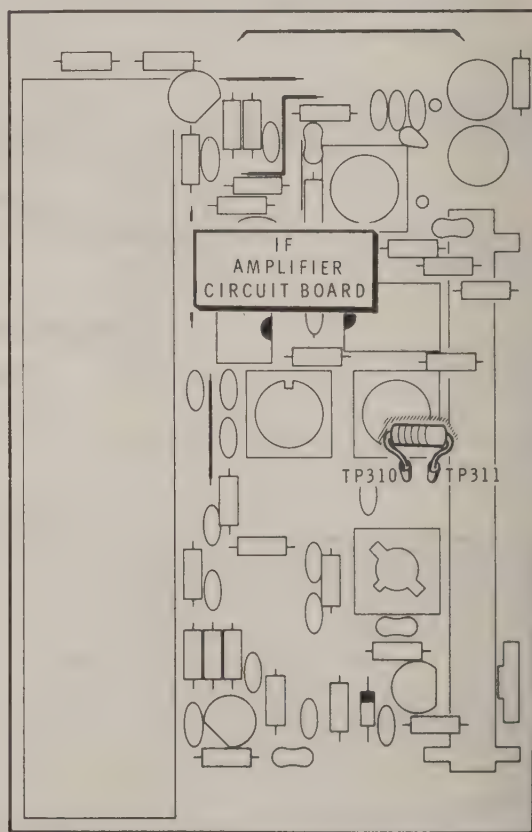

Figure 1-12
- () Connect a 10 Ω (brown-black-black) resistor between TP310 and TP311 on the IF amplifier circuit board as shown in Figure 1-12.